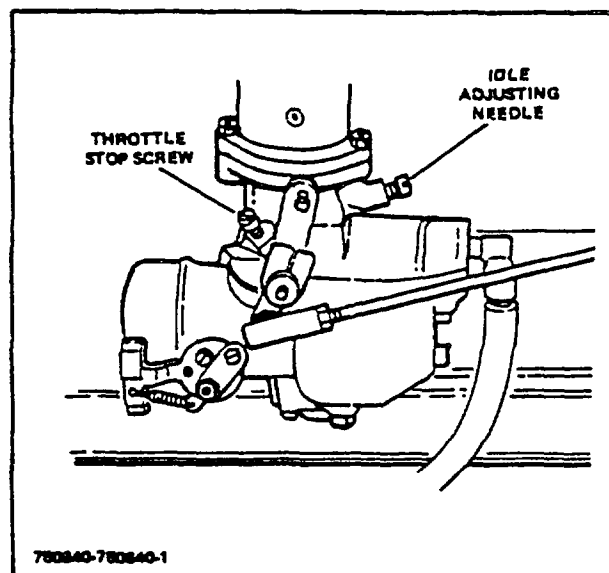

Figure 4-9. Carburetor Adjustments
- a. With engine at operating temperature, release accelerator to allow engine to run at idle speed. Turn, idle adjusting needle (Figure 4-9) counterclockwise until engine begins to falter. Turn needle clockwise until engine runs smoothly.